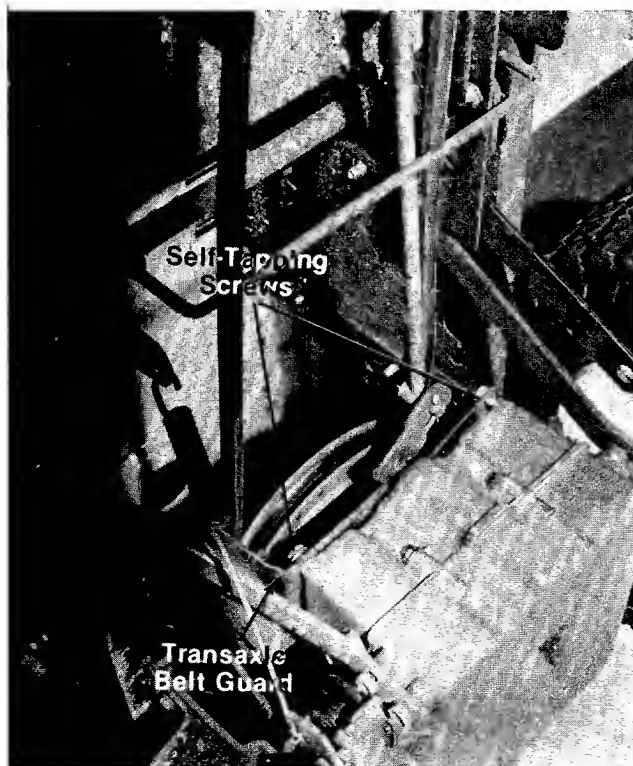

FIGURE 18.
4. Remove the transaxle belt guard by removing the two self-tapping screws. See figure 18.